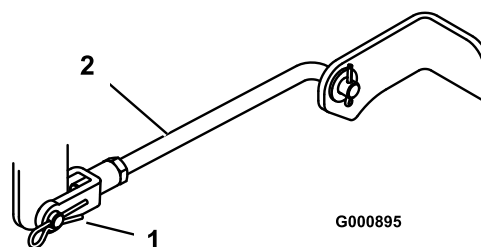

Figure 46
4. Remove the hairpin cotter and clevis pin from the front trunion yokes (Figure 46).
7. Attach the front trunion rods to the tractor with the clevis pins and hairpin cotters (Figure 46).